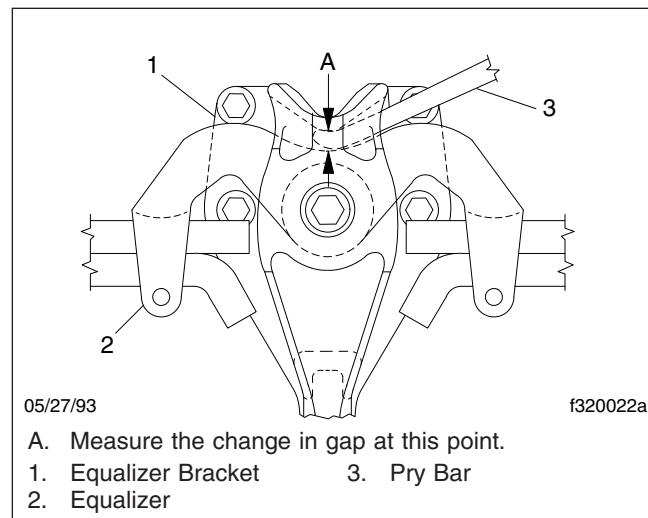

Fig. 2, Side View of the Equalizer
- Block the frame up enough to take the weight of the chassis off of the springs. Attempt to move the equalizer up and down, by using a pry bar between the top of the equalizer and the top of the equalizer bracket. Apply hand-pressure only. See **Fig. 2**. If movement at the center of the equalizer exceeds 1/8 inch (3 mm), replace the equalizer bushings.